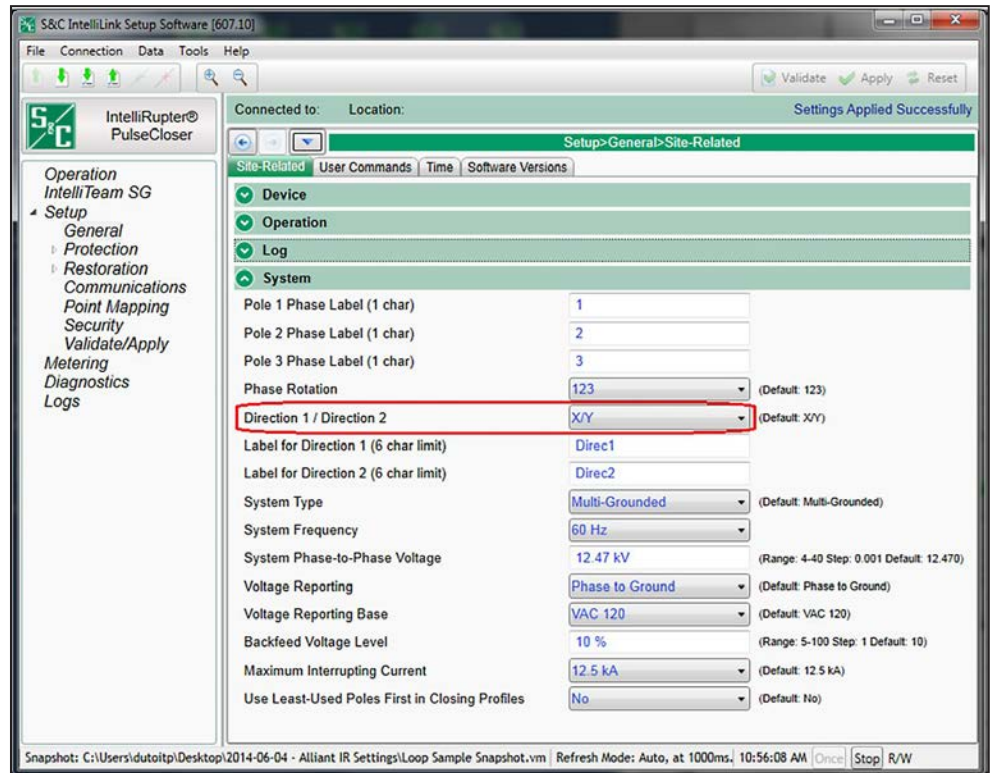

Figure 76. The Direction setpoint on the *Setup>General>Site-Related>System* screen.
STEP 4. Set the **Direction 1/Direction 2** setpoint on the *Setup>General>Site-Related>System* screen. See Figure 76.